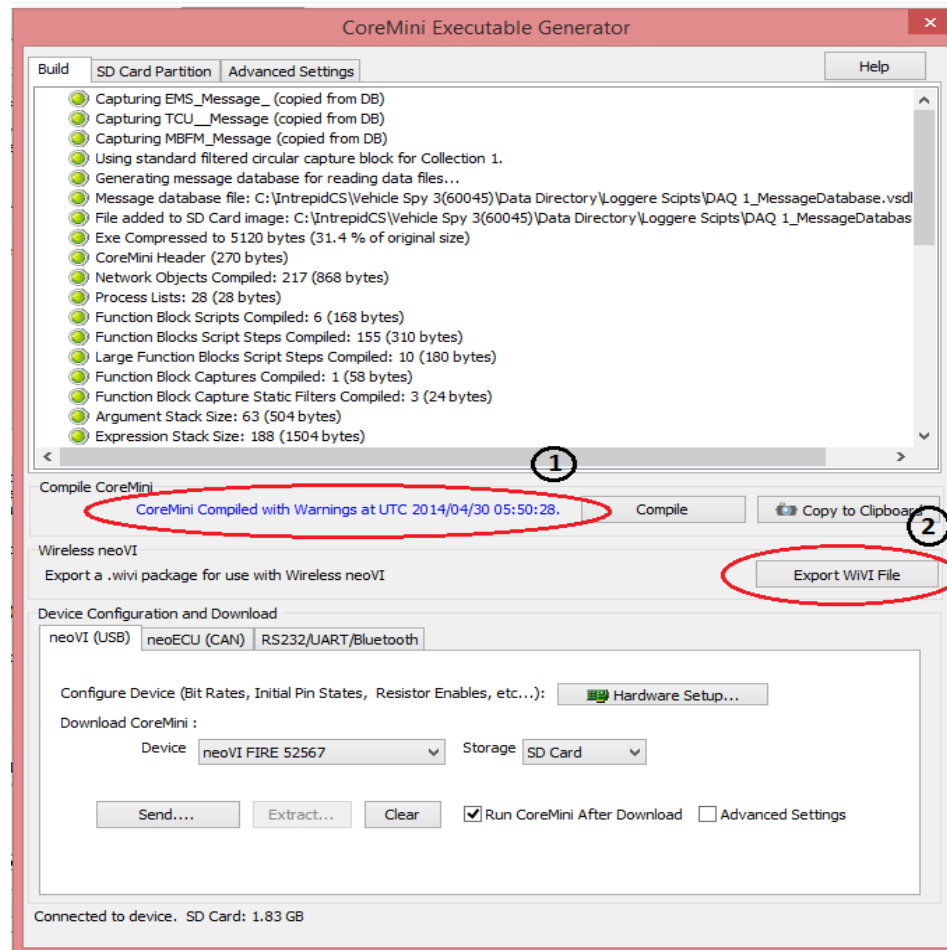

Figure 3: Settings for compiled Wivi file
- Make sure that coremini compiled without error (Figure 3 (1)).
- Click on ‘Export wivi file’ option (Figure 3 (2)). It will export wivi file then Save file in destination folder